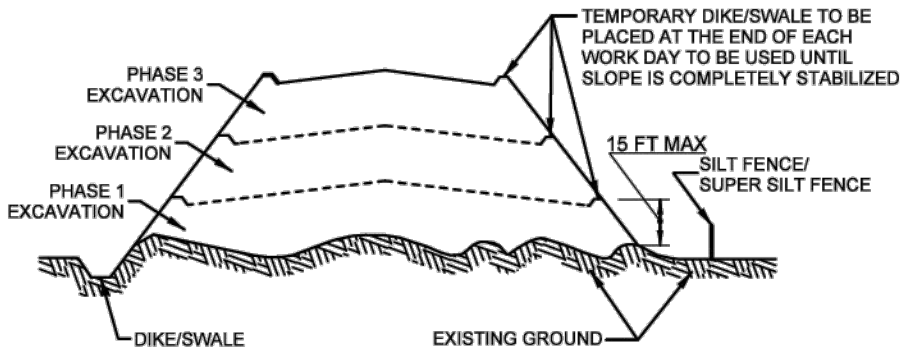

FIGURE B.2: INCREMENTAL STABILIZATION - FILL
- 4. CONSTRUCTION SEQUENCE EXAMPLE (REFER TO FIGURE B.2):